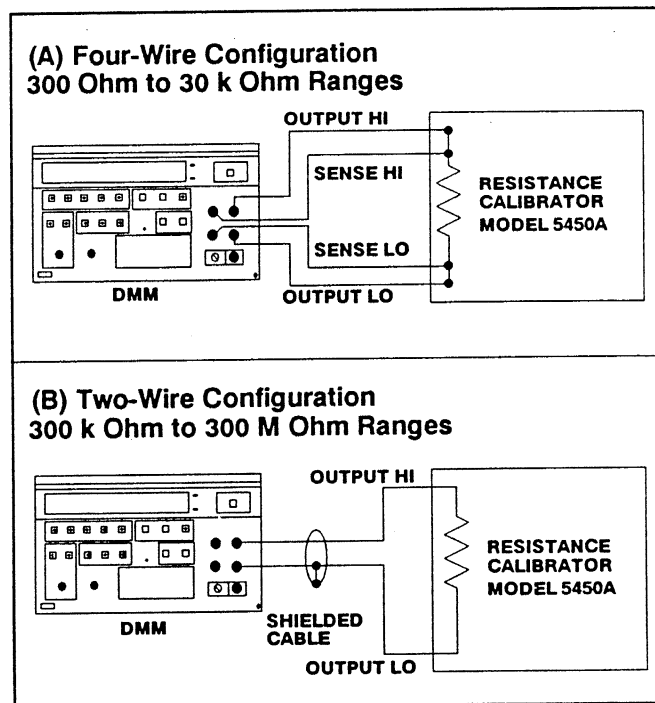

Fig. 2-3. Connections for Ohms Check.
- b. Connect the DMM to the resistance calibrator as shown in Fig. 2-3.
- j. Connecting the DMM and resistance calibrator as shown in Fig. 2-3, check the 3 k Ω through 300 M Ω ranges by applying the respective resistance levels listed in Table 2-4.
| DMM Range | Fig. 2-3 Set Up | Applied Resistance | Reading Limits (18°C to 28°C) |